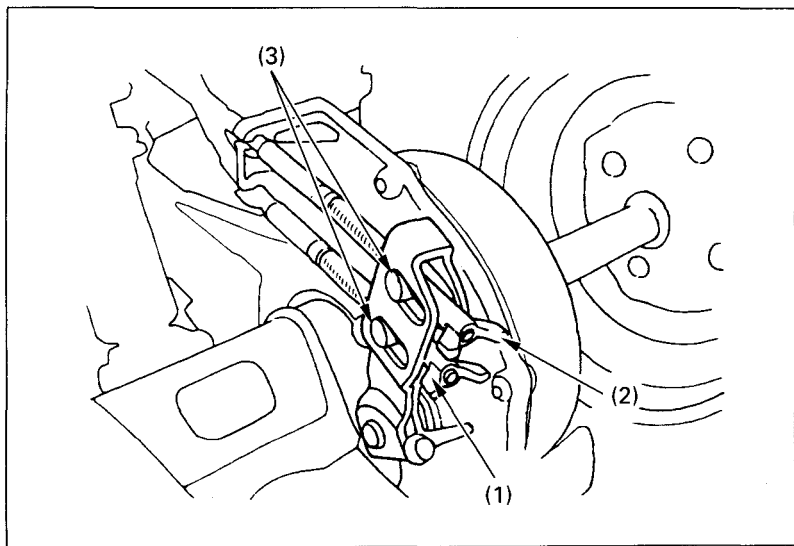

Fig. 4-28 (1) Brake pedal adjusting nut (3) Brake arm pin
(1) Rear brake pedal
To adjust the free play, turn the brake pedal adjusting nut (Fig. 4-28), located on the brake operating rod at the rear of the frame. Make sure the cut-out on the adjusting nut is properly seated on the brake arm pin (3).
To adjust the free play, turn the brake lever adjusting nut (Fig. 4-28), located on the brake operating rod at the rear of the frame. Make sure the cut-out on the adjusting nut is properly seated on the brake arm pin (3).